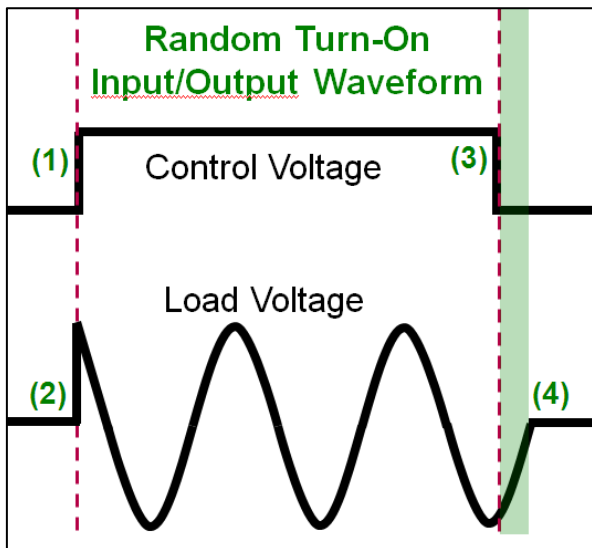

Figure 2; Simplified Random Turn-On Waveform
Figure 2 gives a simplified diagram of the input and output signals on a random turn-on solid-state relay. At point (1) the control voltage is applied to the input of the relay. The output of the relay immediately begins to conduct load current (point (2)) as opposed to a zero-crossing relay, which will wait until the next zero-cross point of the AC sine-wave. At point (3) the control voltage is removed from the input of the SSR, which then stops conducting load current at point (4).